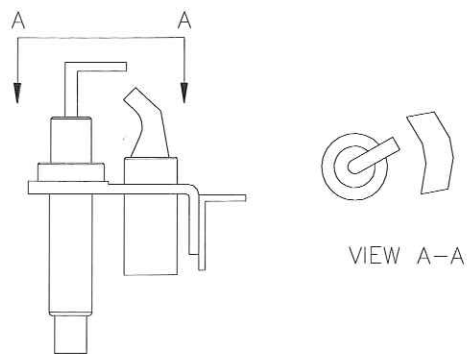

Figure 6
- 3.1.1 On the Burner Assembly, check the spark electrode gap located on the pilot. It should be adjusted as shown in Figure 6. Make sure that the end of the electrode is oriented as shown in Figure 6.
- 3.1.4 At each Burner Assembly, check that the spark electrode is arcing across to the pilot hood. You should be able to hear and see the electrode spark. If there is no spark, make sure that the Burner Assembly has 24vac from the Control Panel. Make sure that the spark igniter gap and orientation is positioned as shown in Figure 6